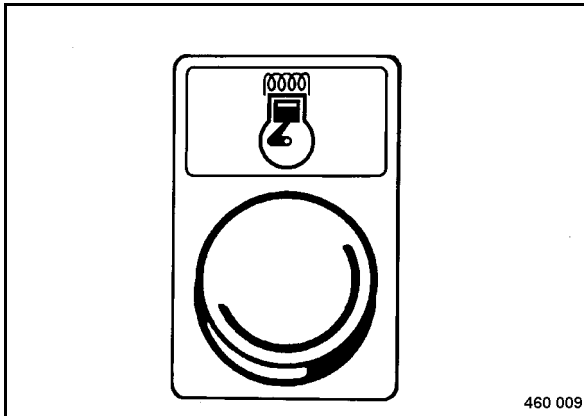

Fig. 45
- The preheating control light (Fig. 45) lights for approx. 6 seconds.